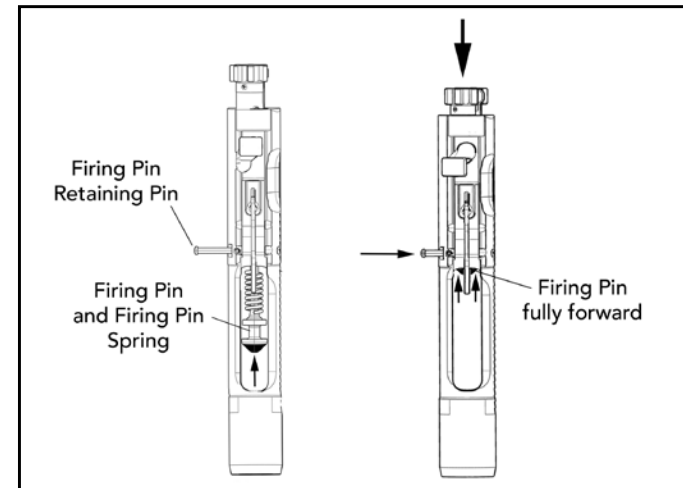

Fig. 61 – Firing Pin Retaining Pin Installation
- e. Ensure that the firing pin retaining pin is properly installed by pivoting upwards on the firing pin safety while pushing backwards on the bolt head. The firing pin should be retained inside the bolt carrier (Fig. 61).